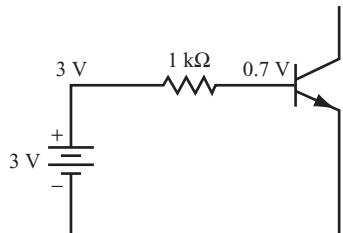

FIGURE 3.9
- 7** In the circuit shown in Figure 3.9, you can calculate the base current using the techniques covered in Chapter 2, “The Diode.”
Find the base current in the circuit shown in Figure 3.9. (*Hint:* Do not ignore the 0.7-volt drop across the base-emitter diode.)